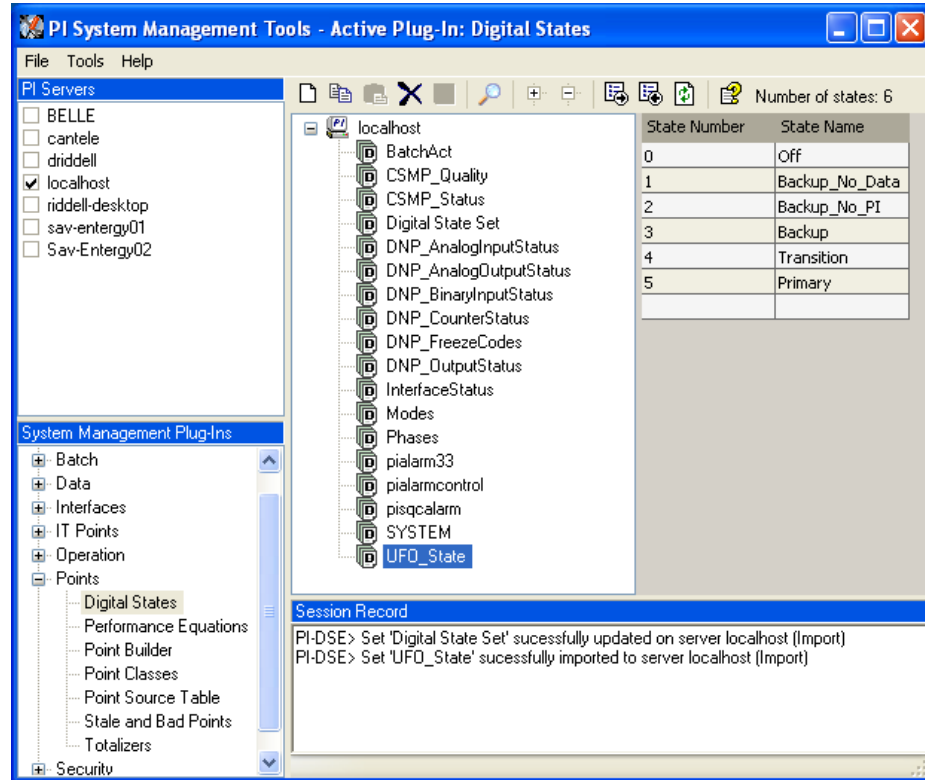

Figure 9: The PI SMT application showing the `UFO_State` digital set created on the “localhost” PI Data Archive.
7. The `UFO_State` digital set is created as shown in Figure 9 below.